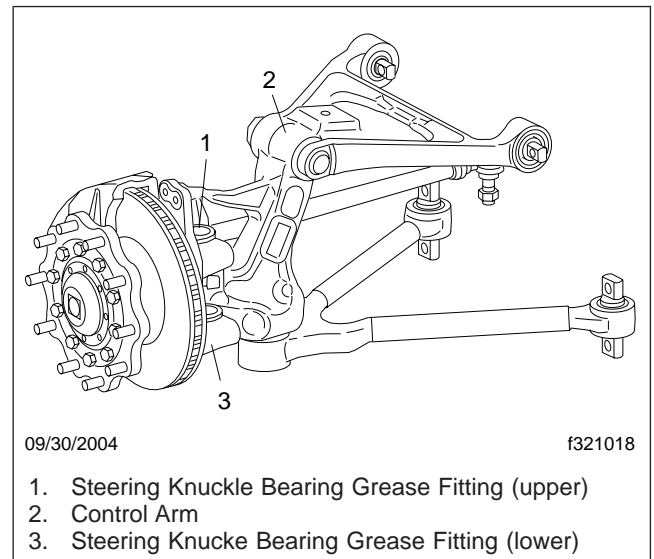

Fig. 4, Pressure Grease Fitting Positions, RL-75E
3. Lubricate the steering knuckle/control arm at indicated maintenance intervals. Use only an NLGI Grade 2 lithium-based grease, multipurpose grease, or mineral oil on the lubricating points. See **Fig. 4** and **Fig. 5**.